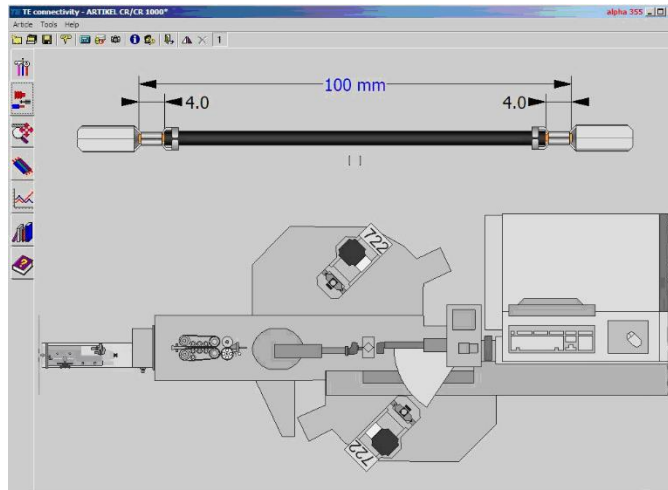

Figure 25
1. To view the smart applicator data, select the terminator in the TopWin software Setup screen. See Figure 25.